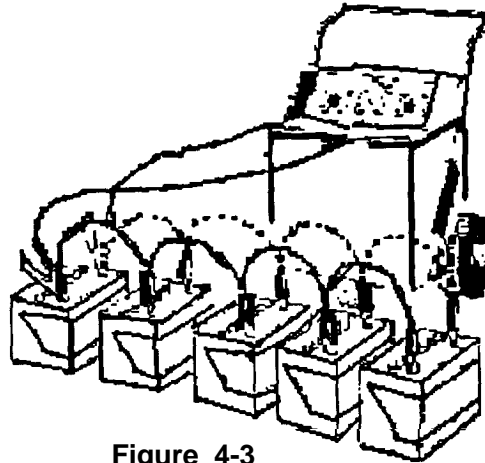

Figure 4-3
- (1) Parallel battery connections. These connections are used with high rate battery charging systems. High rate chargers are usually of the constant voltage type which require that batteries be connected in parallel. The number of batteries that may be connected in parallel depends on the current capacity of the charger. All batteries connected to the high rate charger must be of the same voltage rating. The parallel connections will have all terminals of like polarity connected- the positive (+) cable of the charger connected to the positive connection of the batteries and the (-) negative cable of the charger connected to the negative connection of the batteries. Hookup and charging operations shall be in accordance with the printed instructions of the manufacturer of the high rate battery charger. (Figure 4-3)